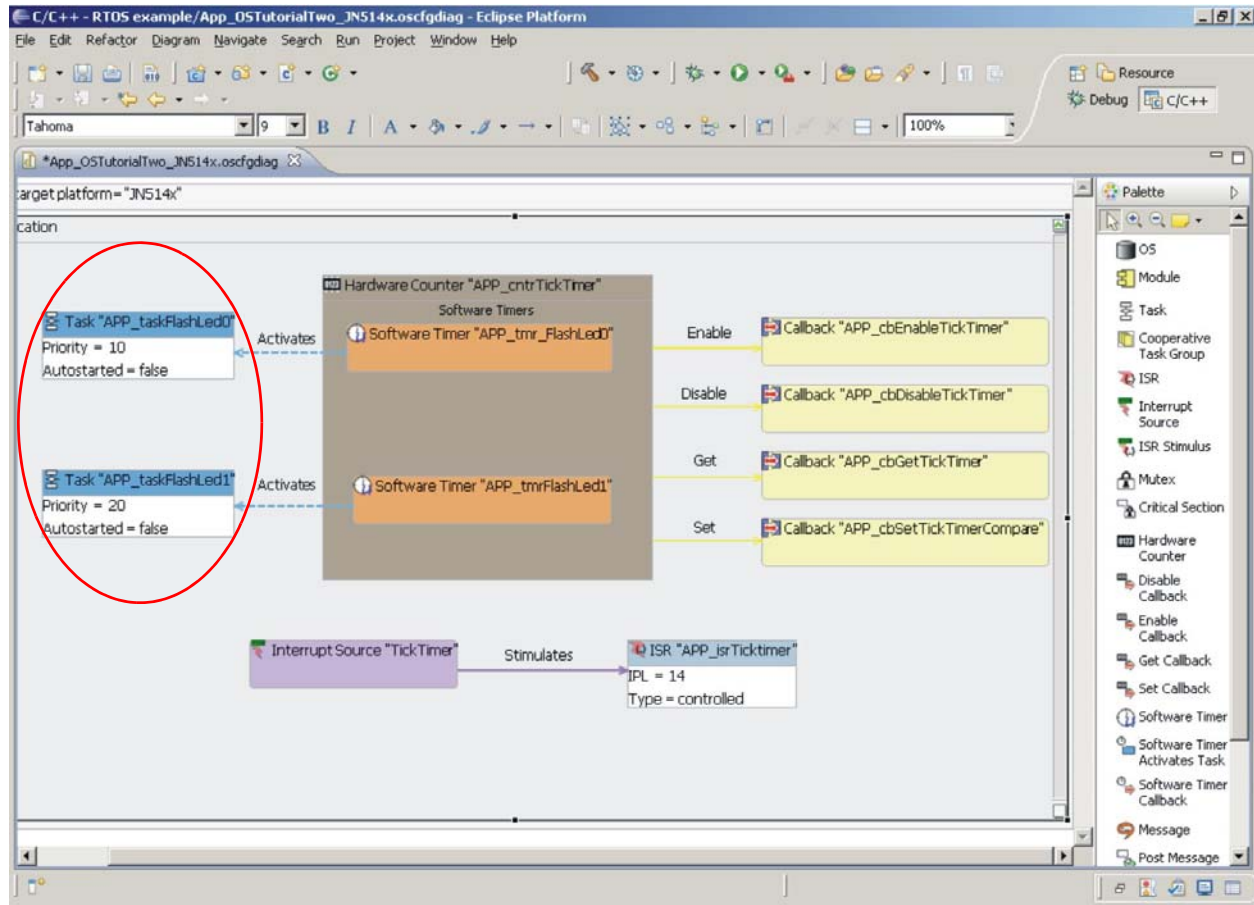

Figure 22: Flash LED Tasks
Step 8 Add two tasks called **APP_taskFlashLed0** and **APP_taskFlashLed1** to the diagram as before, and connect them to their respective software timers using the **Software Timer Activates Task** connector, as shown in Figure 22 below.